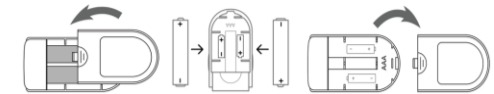

Figure 3. Batteries assembly
- Refer to Figure 3, and insert the two AAA size batteries properly in the right direction.